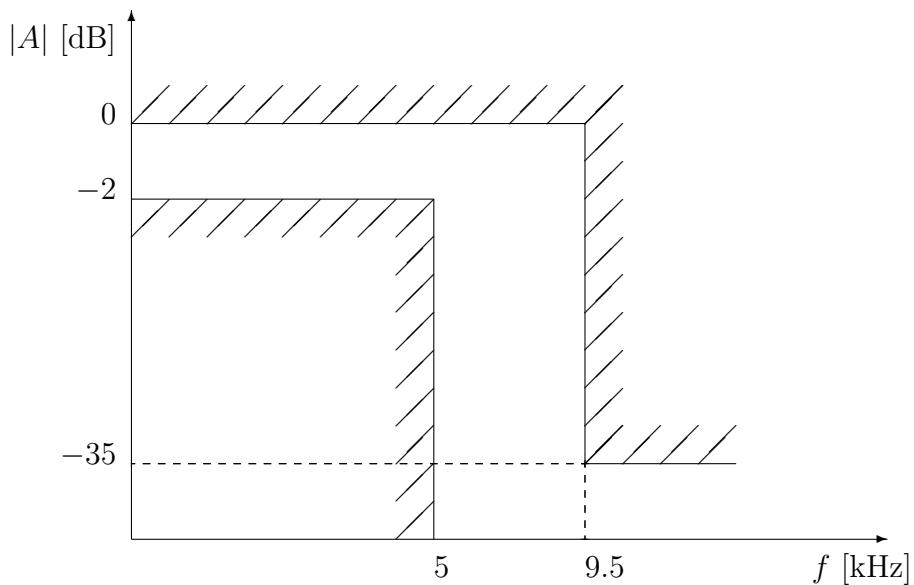

Figure 1: Low-pass filter magnitude specification.
Your first task is to find a transfer function¹ which meets the low-pass filter specification illustrated in figure 1.
- Use the `buttord` function to determine the necessary order for a Butterworth filter to meet the specifications in figure 1. (Don't leave out the extra argument '`s`' which specifies a time-continuous filter! Beware of the use of frequency vs. angular frequency!)
You are now equipped to implement a filter according to the specification in figure 1, using a cascade of `sk` stages.
- Construct a filter according to the specifications in figure 1. Use one `sk` cell for each complex-conjugated pole pair. Real-valued poles (if any) may be implemented as simple RC links. The overall gain will be larger than 0 dB and should be compensated for with a resistive divider at the output. Save a plot of your filter circuit for your report.
- Inspect the plot and compare the curves with the specifications shown in figure 1. Zoom in on the edges of passband and stopband. Most likely, you will find that some of your curves violate the specification. Save plots for your report.